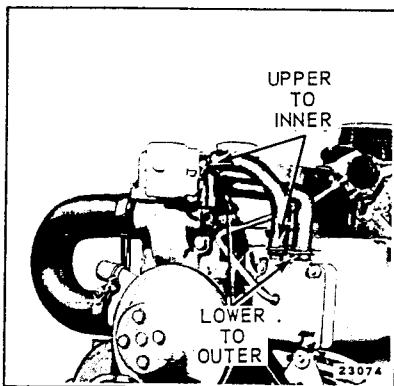

Figure 8-1-1
3. Attach exhaust hose to adaptor elbow and tighten hose clamp. Reinstall carburetor and attach crankcase ventilator hose, fuel line and fuel pump indicator hose. Attach heat tube. Connect throttle cable to throttle shaft arm. Install coolant hoses making sure manifold end cap to thermostat housing hoses are correctly installed; (see Figure 8-1-1 or 8-1-2).